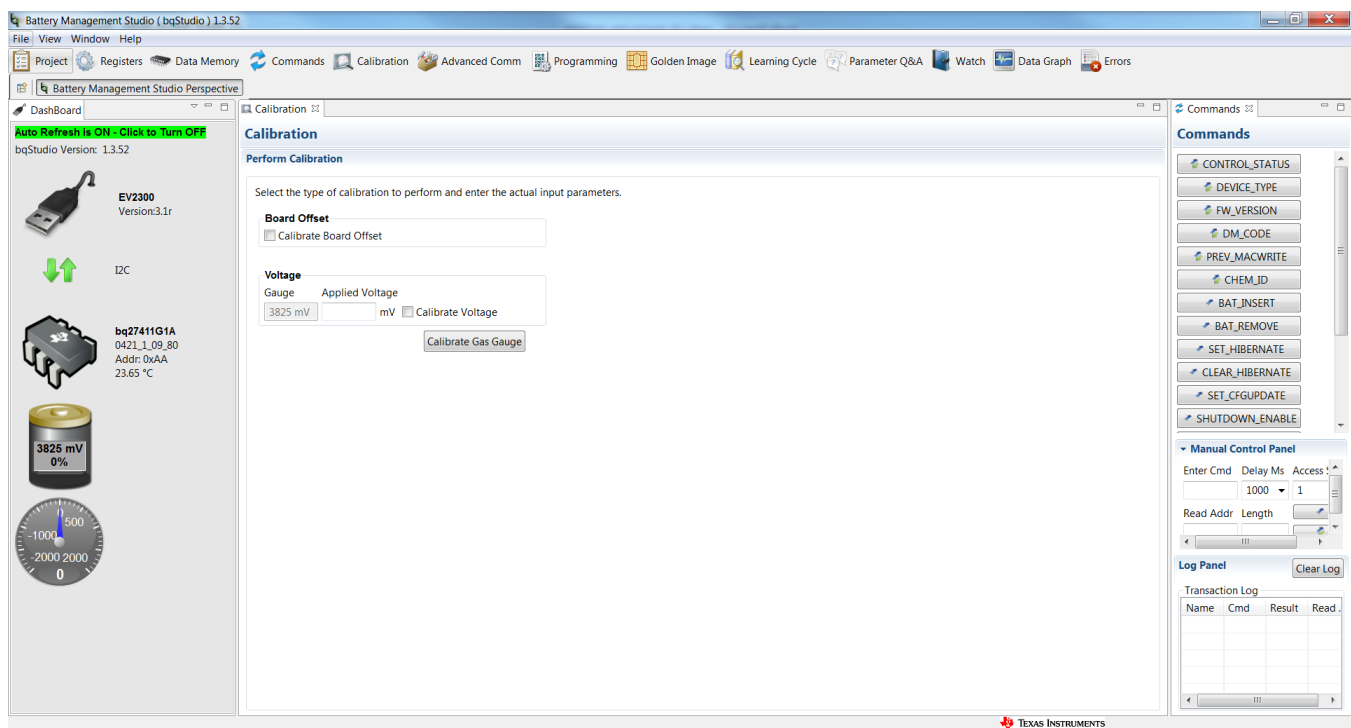

Figure 9. Calibration Screen
The bq27411EVM must be calibrated to ensure accurate value reporting. This can be done by going to the *Calibration* window in bqStudio (Figure 9).
1. Select the types of calibration to be performed (see Figure 9).